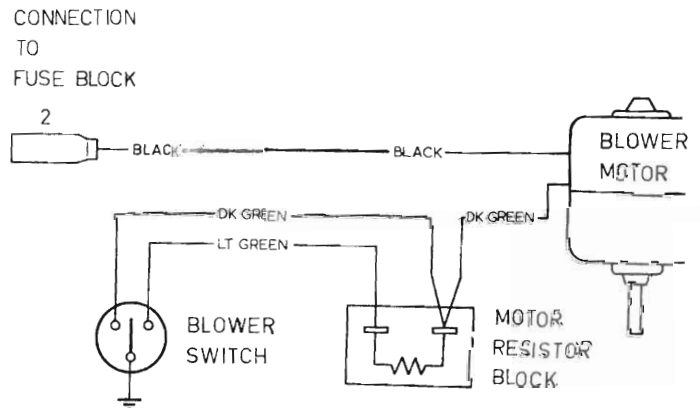

Fig. 4 - Heater wiring diagram
(2) Release cooling system pressure at radiator cap.
(3) Disconnect heater hoses at heater connections under hood.
(4) Remove glove box.
(5) Disconnect control cables by removing spring clips at heater end of cable.
(6) Remove demister tubes from heater.
(7) Disconnect blower wiring at resistor connections (see wiring diagram, Fig. 4).
(8) Remove the four nuts that retain the heater assembly to the dash panel (these are accessible from the engine compartment) and the two screws and washers from the bottom of the L.H. Summer Ventilator.
(9) Move the heater assembly away from the dash panel and lower, taking care not to strain the water pipes. (To prevent water spillage whilst removing, do not tip heater upside down.) For heater core removal, refer to Paragraph 13, Page 24-18.